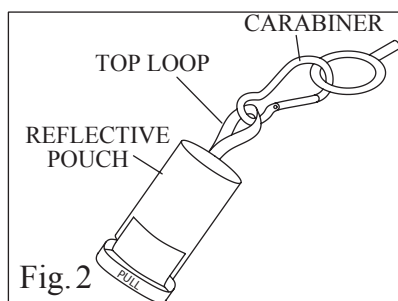
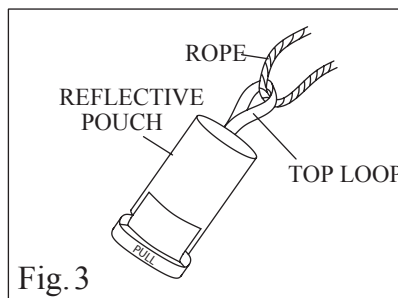

Fig. 2
Fig. 3
- NOTE: Alternatively, a carabiner (not included) may be attached to the TOP LOOP of the RESCUE STEP™ and clipped to the side of the vessel (See FIG. 2) or the RESCUE STEP™ may be tied with a rope (not included) (See FIG. 3) or attached by other methods. Regardless of the type attachment used, make sure the attachment point on the vessel can withstand the intended load.